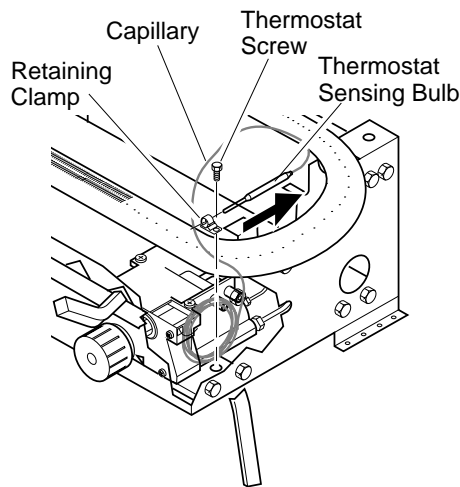

Figure 30 - Removing Thermostat Sensing Bulb
2. With 1/4" hex driver or socket, loosen the thermostat screw. Carefully slide the thermostat sensing bulb out of the retaining clamp (see Figure 30).